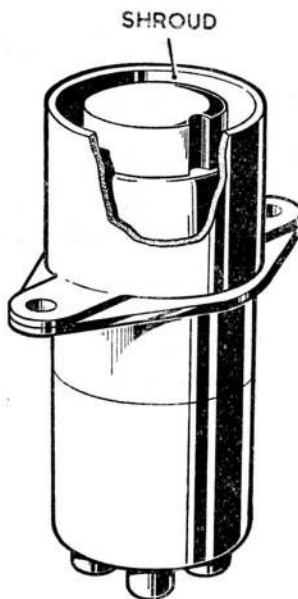

Fig. 1. Push-switch, Type C5162Y (flanged type)
3. The flanged version of the switch is illustrated in fig. 1. All Marks may be used on d.c. or a.c., being rated at 5 amp. on 30 volts d.c., or 2 amp., 0.1 henry on 120 volts a.c. (each contact).
5. Each type of switch may either be provided with a mounting flange (fig. 1), or have a groove around the body to accommodate a rubber securing ring. In the latter type a spring at the back of the panel bears against a special flange, the tab of which engages with a slot in the panel to prevent rotation of the switch. Flange-mounted types are secured by two 8 B.A. screws, and may be fitted with a shroud, shown in fig. 1, which is secured by the same fixing screws.